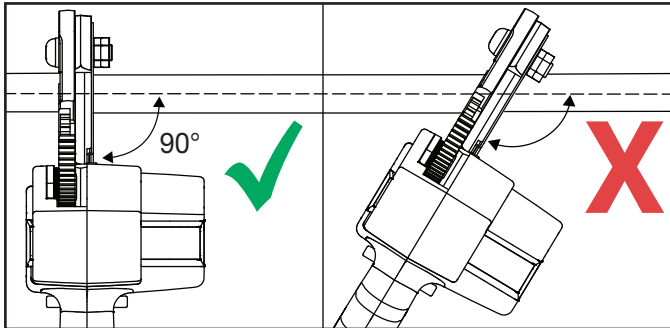

Figure 2
4. Check material for proper alignment to the cutting blades. It should be square to the blades. Other angles will cause the blades to be misaligned and possibly break. (Fig. 2.)